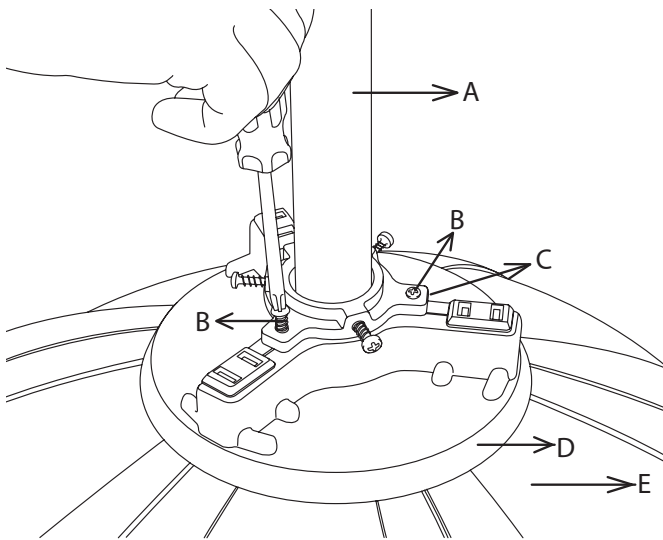

Figure 4
- Slide the collar down the pole and secure it to the tree stand by fastening the three (3) collar screws (Fig. 4).